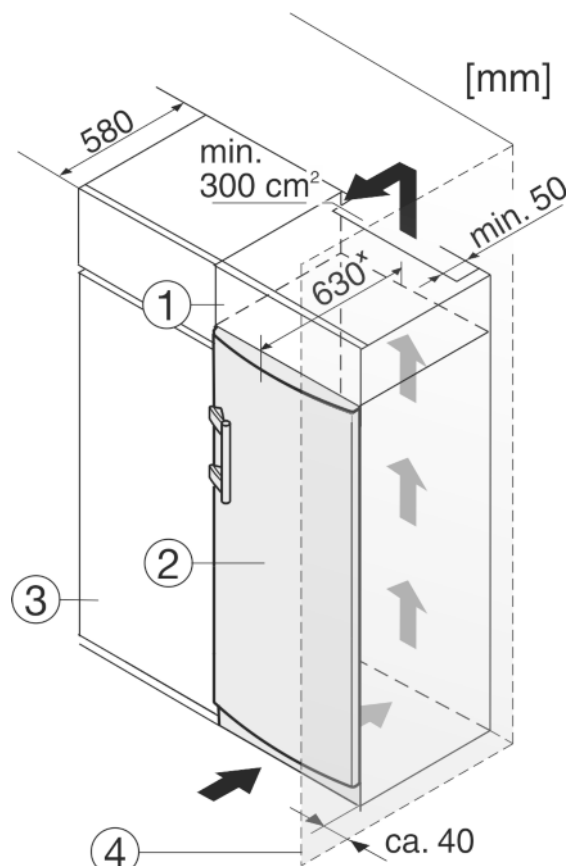

Fig. 8
The appliance can be inserted into a row of kitchen units. To match the appliance *Fig. 8 (2)* to the height of the row of units, a suitable stack cabinet *Fig. 8 (1)* can be fitted above the appliance.
When installing with kitchen units (max. depth 580 mm), the appliance can be positioned directly next to the kitchen cabinet *Fig. 8 (3)*. The appliance will project by 34 mm\* at the sides and 50 mm\* in the centre of the appliance in relation to the kitchen cabinet front.
If the appliance is installed with the hinges next to a wall *Fig. 8 (4)*, the distance between appliance and wall has to be at least 40 mm. This corresponds to the projection of the handle when the door is open.